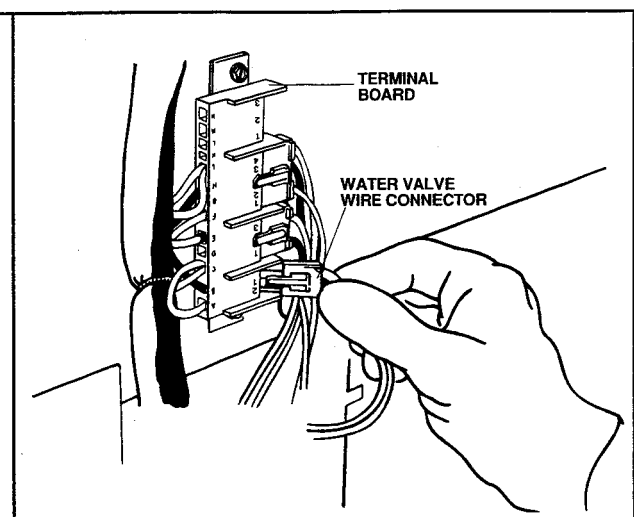

Figure 22
- e. Plug the water valve wire connector into the terminal board at the points on the bottom right position, marked "1" and "2," across from "A" and "B." See Figure 22.